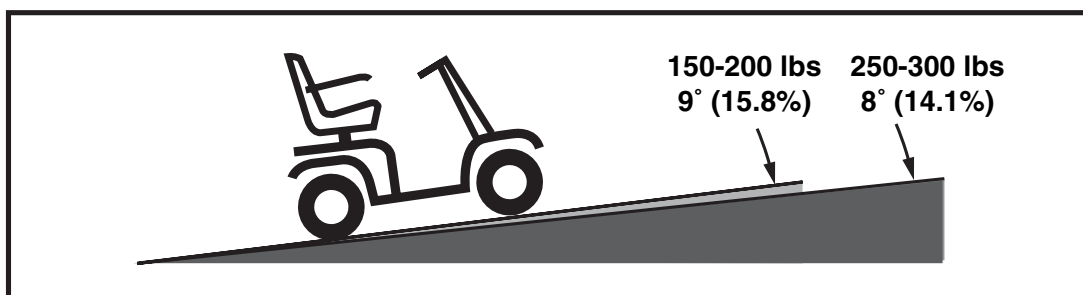

Figure 1. Maximum Recommended Incline Angles
**WARNING! Even though your scooter is capable of climbing slopes greater than those illustrated in figure 1, do not, under any circumstances, exceed the incline guidelines or any other specifications presented in this manual. Doing so could cause instability in your scooter, resulting in personal injury and/or damage to your scooter.**
Handicap public access ramps are not subject to government regulation in all countries, and therefore do not necessarily share the same standard percent of slope. Other inclines may be natural or, if man-made, not designed specifically for scooters. Figure 1 illustrates your scooter's stability and its ability to climb grades under various weight loads and under controlled testing conditions.
**WARNING! Any attempt to climb or descend a slope steeper than that shown in figure 1 may put your scooter in an unstable position and cause it to tip, resulting in personal injury.**